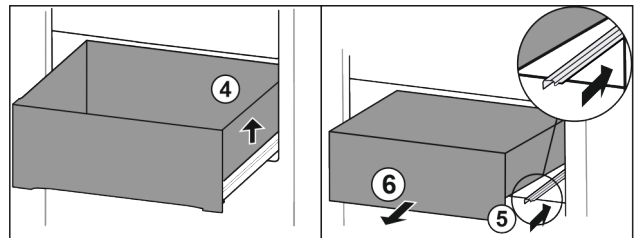

Fig. 86
- ▶ Lift drawer on the right. Fig. 86 (4)
- ▶ Insert right rail. Fig. 86 (5)
- ▶ Remove drawer to the front. Fig. 86 (6)